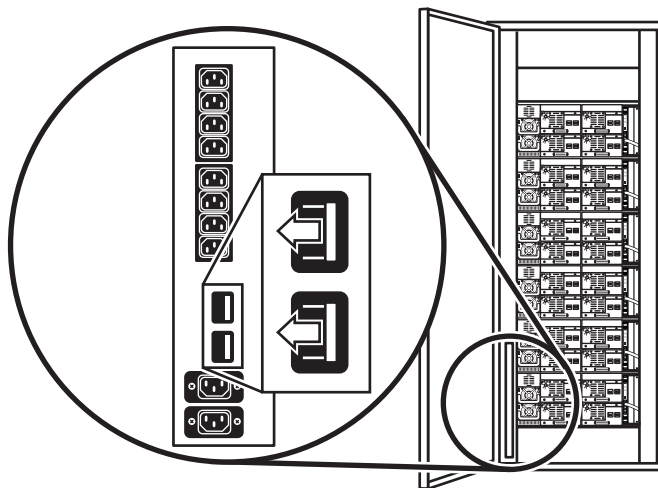

Figure 25: Ensure power distribution unit is switched off
2. Before continuing with the installation procedure, ensure the library is powered off. Then ensure that the main switches on the power distribution unit are in the off (left) position (see Figure 25).